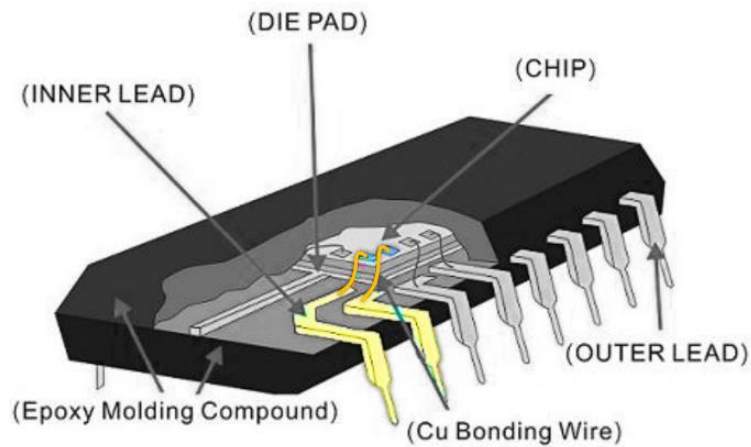

Figure 1: DIP package for problem 9.
8. Consider the DIP package shown in Fig. 1.
- a. Draw the equivalent circuit schematic for the two adjacent wire bonds and leads highlighted in Fig. 1, where one is the signal path and the other is the return (ground) path. Represent the semiconductor die as a capacitive load, and the input as a voltage source. Consider parasitic resistances, self-inductances, and mutual inductances (with polarities/signs). Assume the rise time is sufficiently slow such
that transmission line effects can be neglected. Label all elements included in the circuit such that it is clear which elements in the equivalent circuit correspond to each component in Fig. 1.